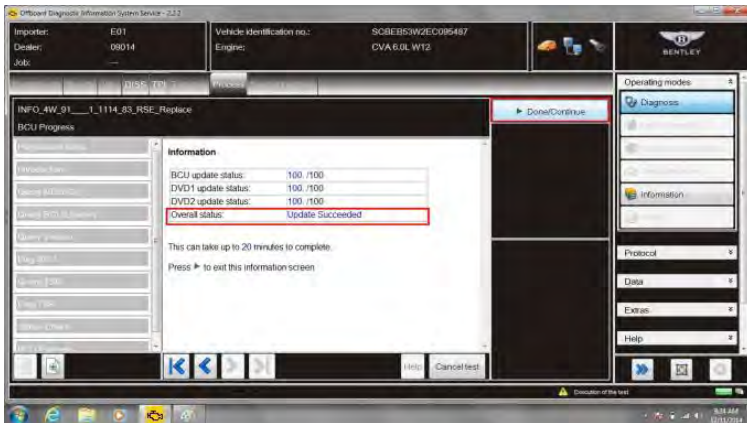

Figure 9
15. The process screen will display progress. This section of the download will take up to 20 minutes. When the *Overall status* shows *Update Succeeded* select Continue (see Figure 9)